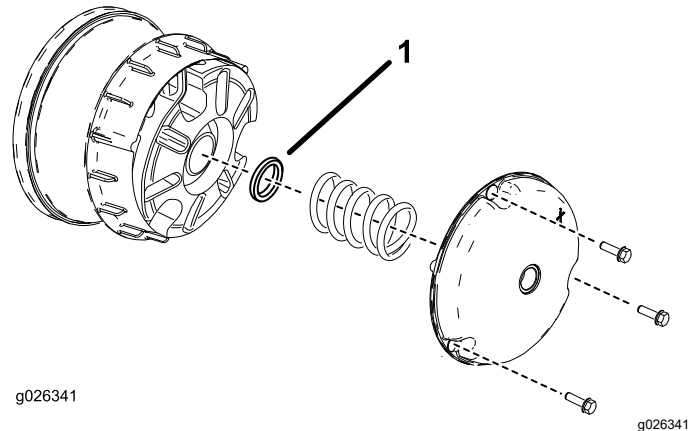

Figure 51
1. Remove the bolts securing the primary clutch cover as shown in Figure 51.